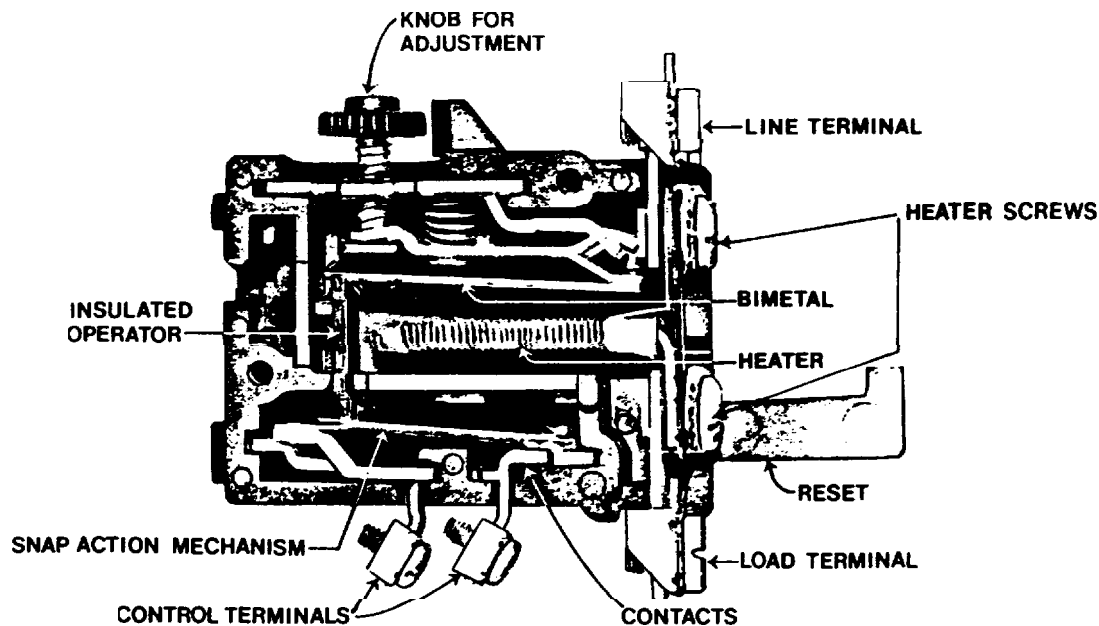

Figure 5-14. Typical terminal overload.
*e. Thermal overloads.* Thermal overload relays contained in starters provide more precise motor protection against overloads and momentary surges than fuses or circuit breakers. However, they do not provide short circuit protection. Relays themselves require little maintenance other than occasional testing to ensure that they are operational. Thermal overloads should be checked and resized whenever the motor is replaced to adequately protect the motor. The relays are controlled by heater elements (fig 5-14) which are in series with the motor current. The size of the heater must match the motor being protected. Be especially careful if the motor has been oversized to compensate for lower load current with lower rated heaters to cause tripping on loss of one phase (single phasing). It often happens that the wrong size heaters are installed. If the heater is too small, the overload relays act to take the motor off line unnecessarily. If too large, the motor will operate without proper protection and could be damaged from overload. If the relays frequently operate to take the motor off line, the heaters should be checked first. If the heaters are properly sized (about 120 percent of motor full load current) and there are no unusual temperature conditions, then check the motor current. If the motor current is higher than the nameplate rating by a margin sufficient to exceed the heater rating, then the relay is operating properly, and the motor is either overloaded or in fault, therefore, check the motor. Do not put in larger heaters. If however, the motor stops frequently even though the heaters are correctly